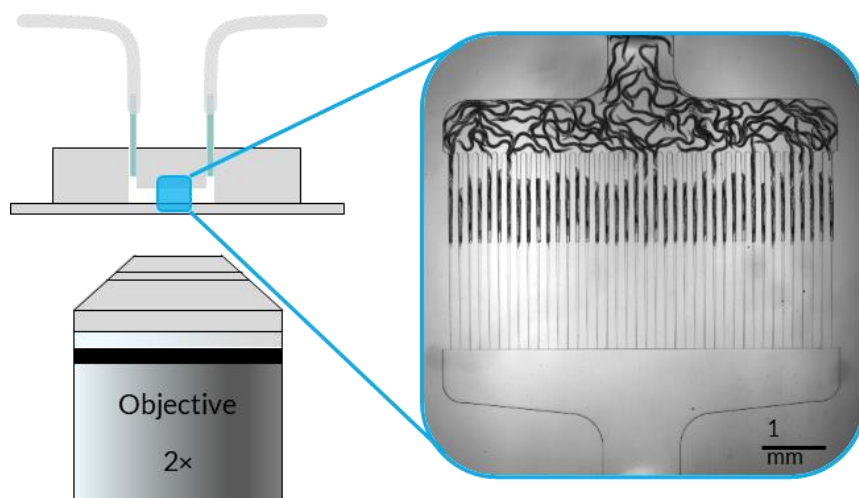

Figure 17: Schematic of an inverted microscope objective viewing the vivoChip-2x with inset showing low magnification of worms trapped in channels
- 5.10 Begin observations by focusing on the microfluidic channels/worms using a low magnification (such as 2× as shown in Figure 17) objective before switching to a higher magnification if possible.